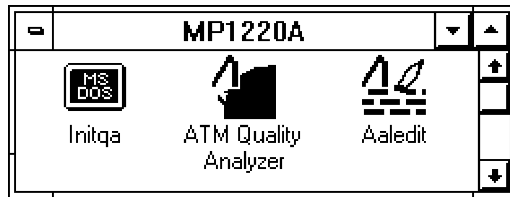

Figure 7-1 MP1220A Group box
1. Make sure that an Aaledit icon is added to the MP1220A Group of the Program Manager as shown in Figure 7-1.